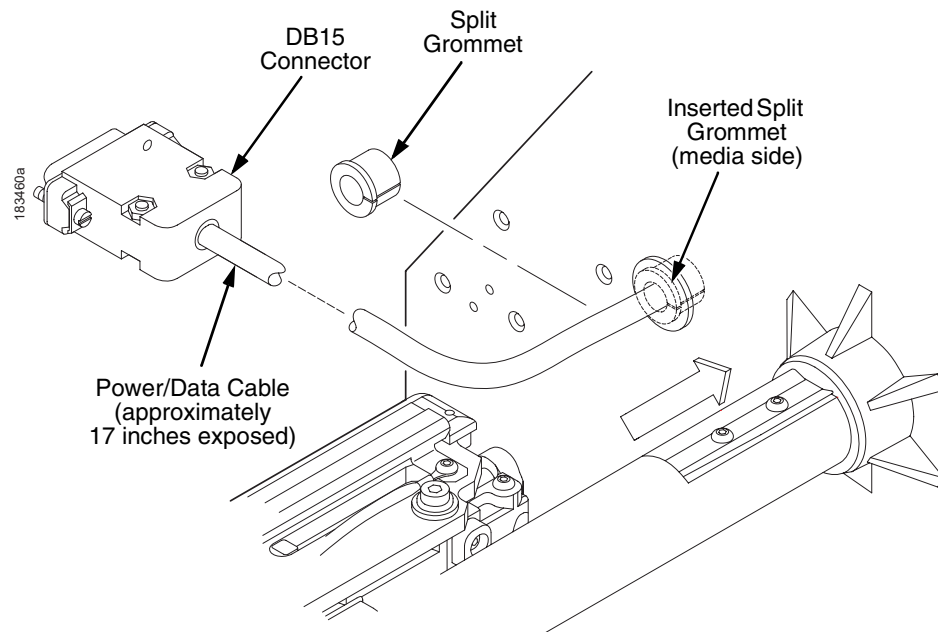

Figure 8. Adding the Grommet to the Power/Data Cable
13. On the media side of the printer, slide the split grommet onto the power/data cable and insert it into the frame opening. (Figure 8.)